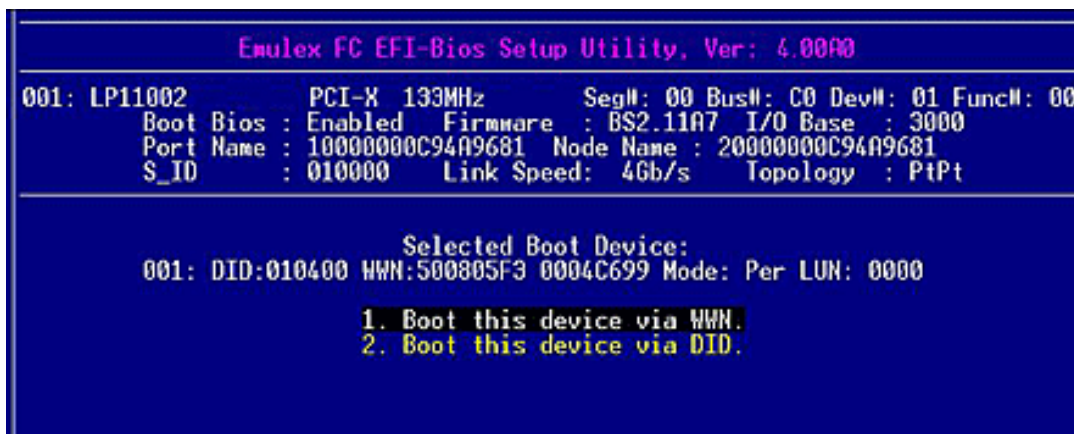

Figure 6-24 LUN Boot Options Menu
6. Select a LUN and press **<Enter>**. The screen shown in Figure 6-24 is displayed.